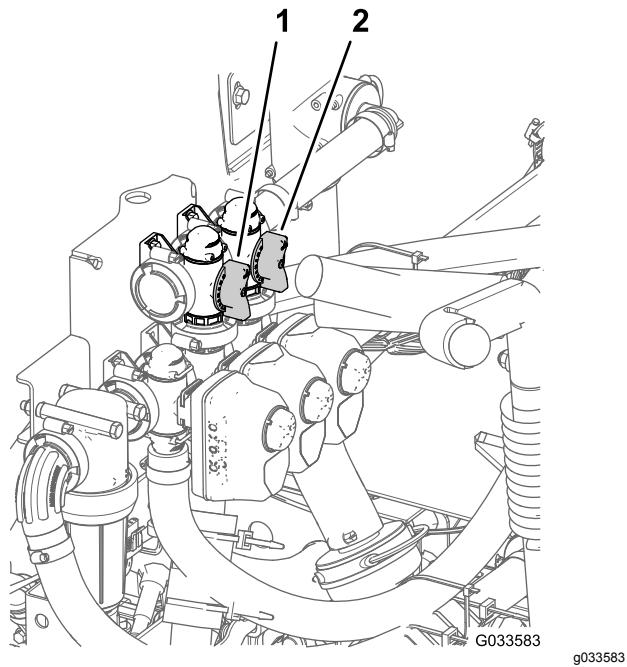

Figure 88
11. Adjust the agitation bypass valve (Figure 88) on the backside of the agitation valve until the pressure reading on the gauge is 6.9 bar (100 psi).
- 8. Adjust the master section-bypass handle to control the amount of agitation occurring in the tank (Figure 88).